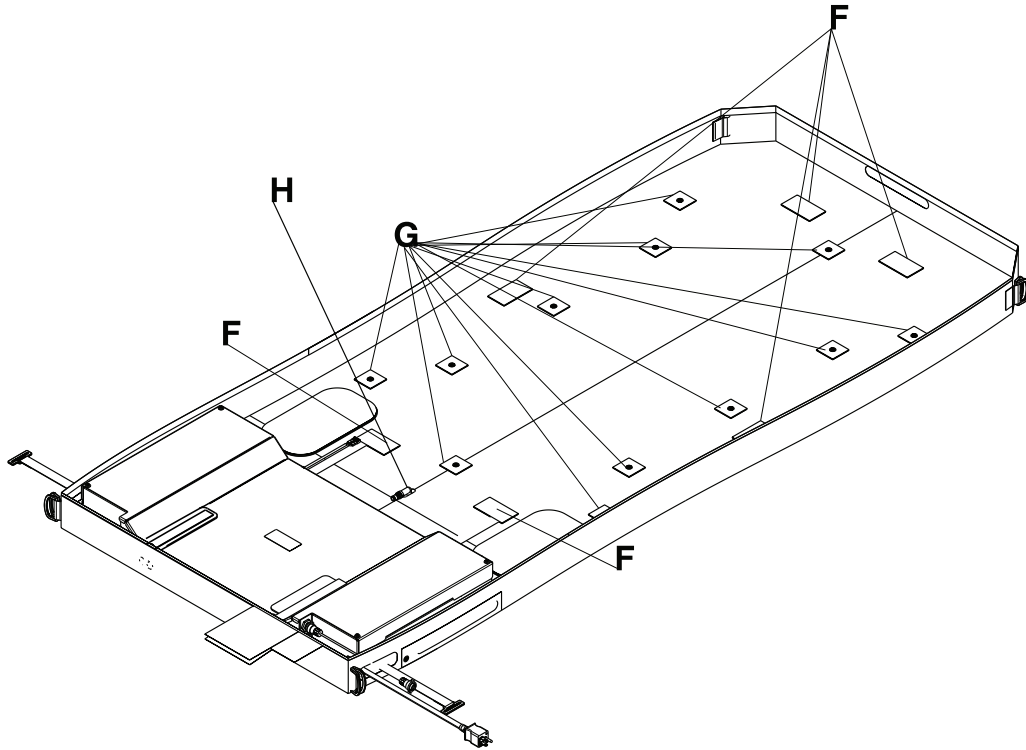

Figure 1-11: Pod Velcro® and snap retainers
16. Starting at the head end of the support surface, separate the six Velcro® patches from the bottom cover (F) (Figure 1-11 on page 1-36).
17. In a gentle motion, unsnap the twelve snaps and separate the Velcro® from the left and right sides of the turn bladder (G) (Figure 1-11 on page 1-36).
19. Disconnect the exhaust tube quick disconnect (H) from the bladder assembly (Figure 1-11 on page 1-36).